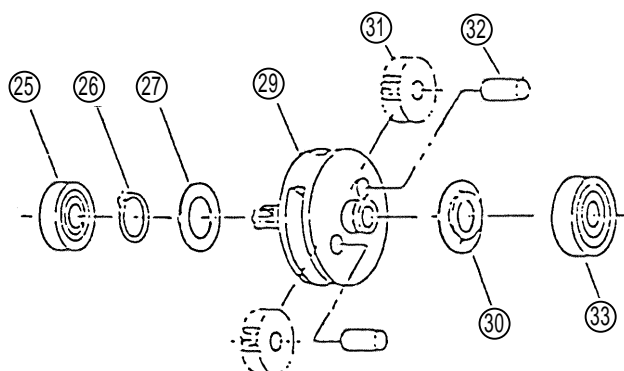

Fig. 12
- (4) Disassembly of the Second Pinion and Related parts. (See Fig. 12)